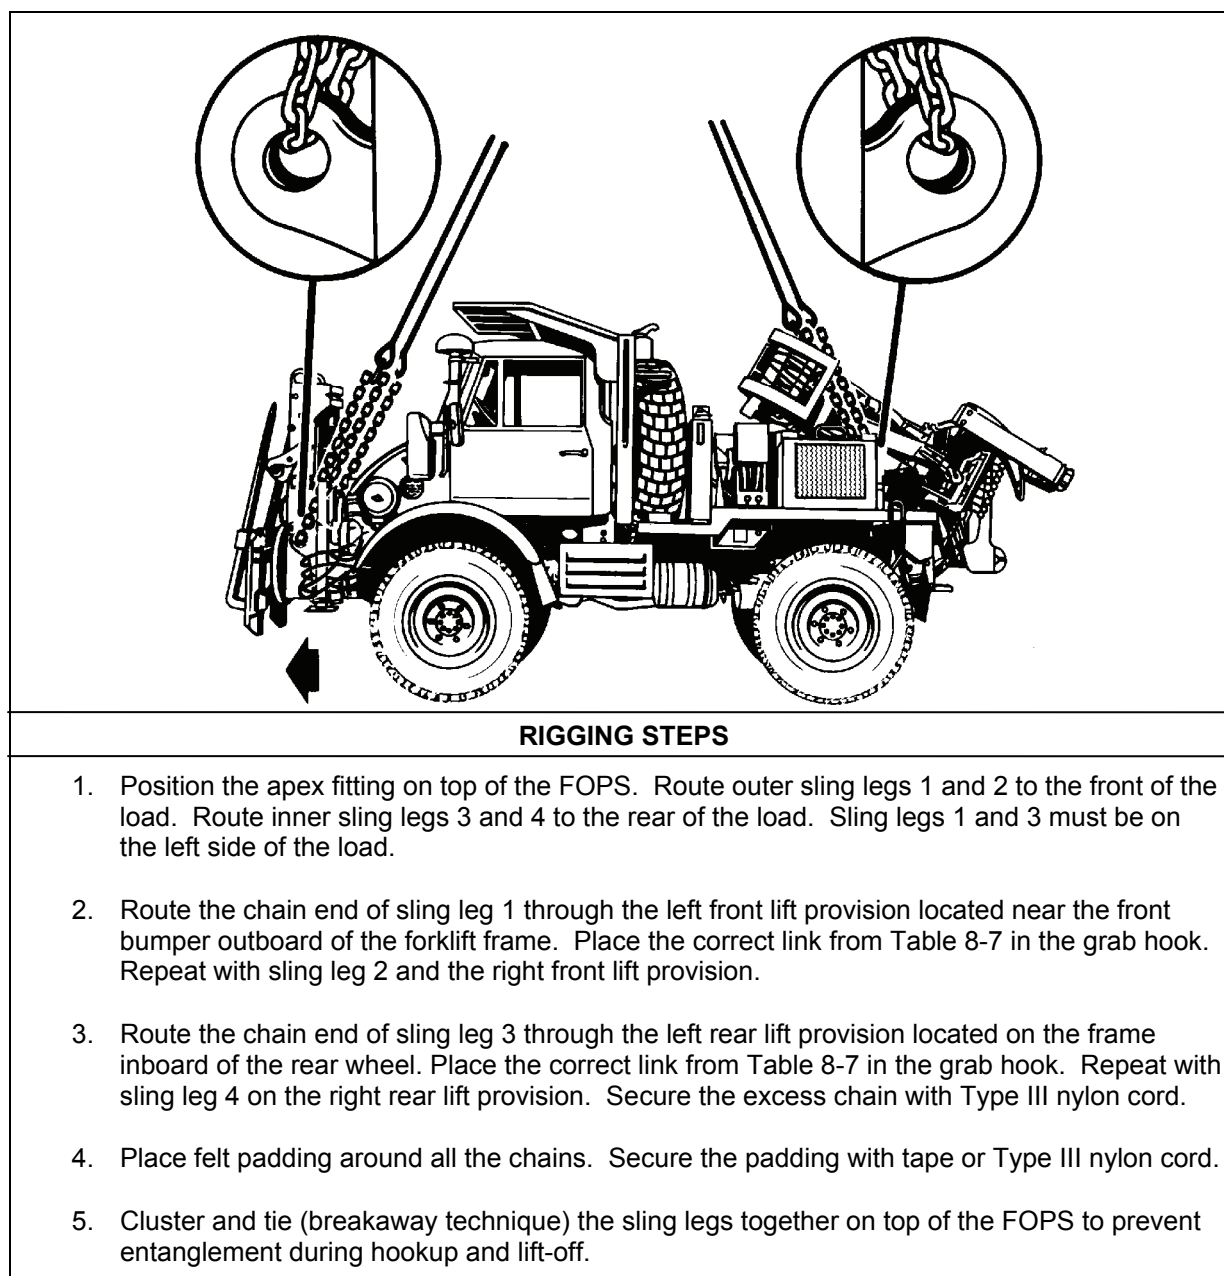

Figure 8-7. High Mobility Materiel Handler
- **Rigging.** Rig the load according to the steps in Figure 8-7.